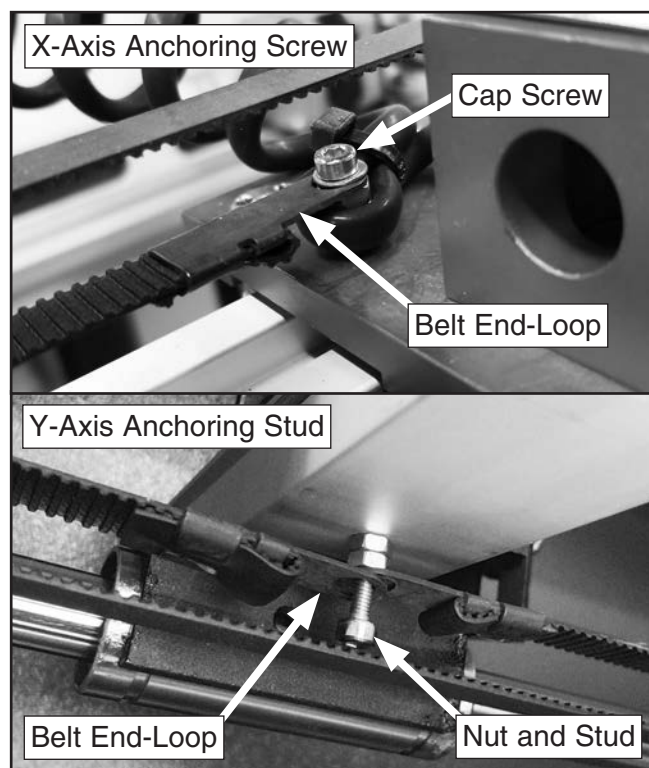

Figure 83. Belt anchoring fasteners locations.
3. Remove fastener anchoring end of belt (see **Figure 83**), then remove belt.